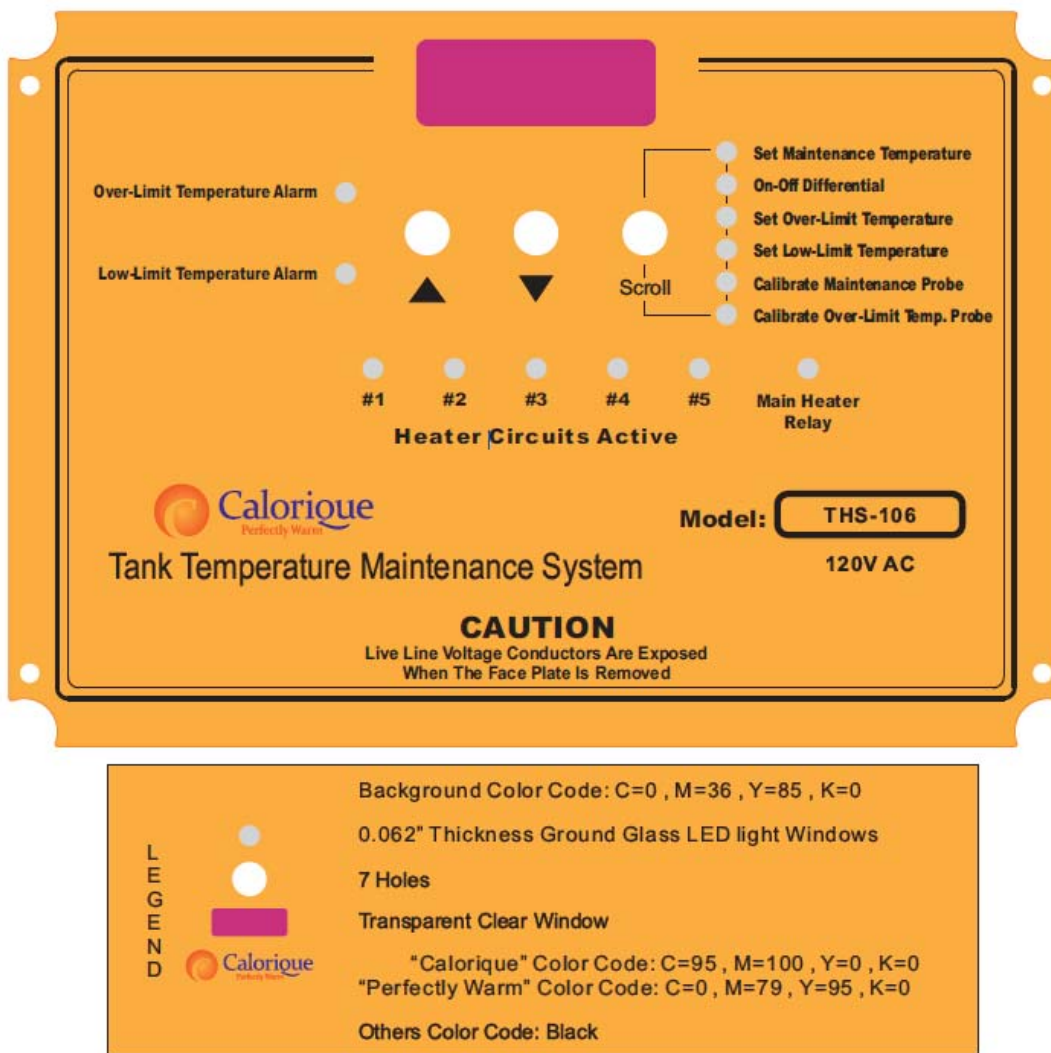
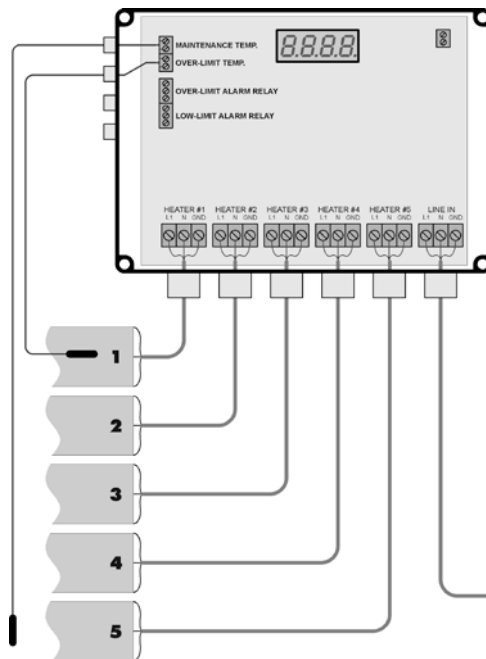

Figure 8.11
Figure 8.12
8.11.2 Heated tanks are equipped with at least 1 control box with maintenance temperature and over-limit temperature settings. The maintenance temperature setting should be set at the desired maintenance temperature. The over-limit temperature setting should be adjusted to 10 degrees above the desired maintenance temperature. The maximum temperature the over- limit control should be set to is 140° F for crosslinked polyethylene tanks and 130° F for high density linear polyethylene tanks. Be sure to check tank material type and design before setting any control temperatures over 100° F. It is best to keep the tank at the lowest temperature necessary to accomplish the desired objective. The Figure 8.11 shows a standard 110 VAC control box front cover with the control functions shown. This control box has calibration functions for the temperature probes. The control box is factory calibrated and should not need recalibrated. If there are any questions about control box calibration, consult the factory. Figure 8.12 shows a schematic of the terminal connections possible located under the control box front cover. The terminals available for customer connection are: line in, over-limit alarm relay, and low-limit alarm relay. There are other control boxes available with different functions not detailed in these instructions. Please consult the factory with questions regarding other types of control boxes available. Do not expose control box to atmosphere during or after installation for extended periods of time as this could cause condensation. Refer to the control box instructions and schematics sent with each tank for further details.